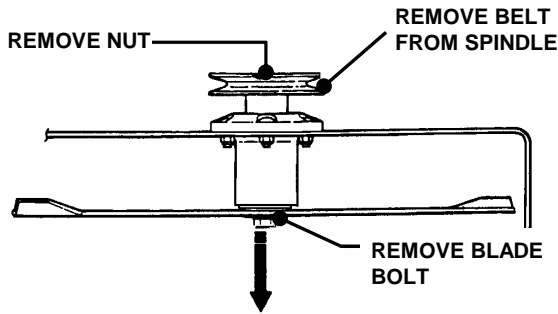

FIGURE 4.15
3. Place the positive (+) terminal insulator over positive terminal and cable. See Figure 4.15.
1. Remove belt. Loosen blade nut and remove. Allow blade bolt, blade washer, blade, and dust shield to drop down out of the spindle housing. See Figure 4.15.